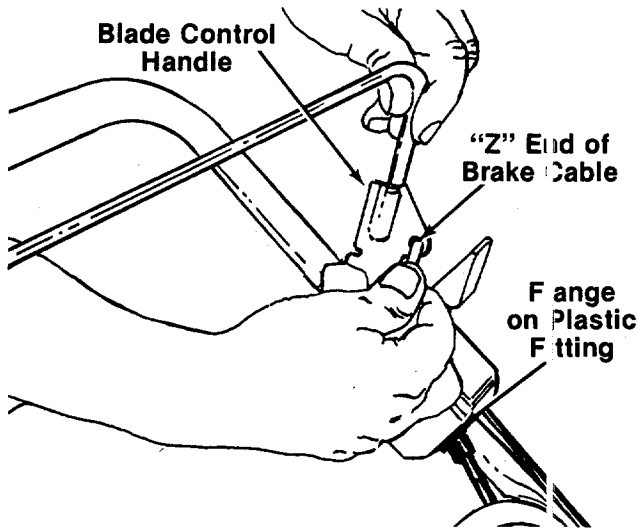

FIGURE 8.
13. Hook the "Z" end of the brake cable into the hole in the blade control handle. See figure 8. If additional slack is needed in order to hook the cable into the handle, proceed as follows.